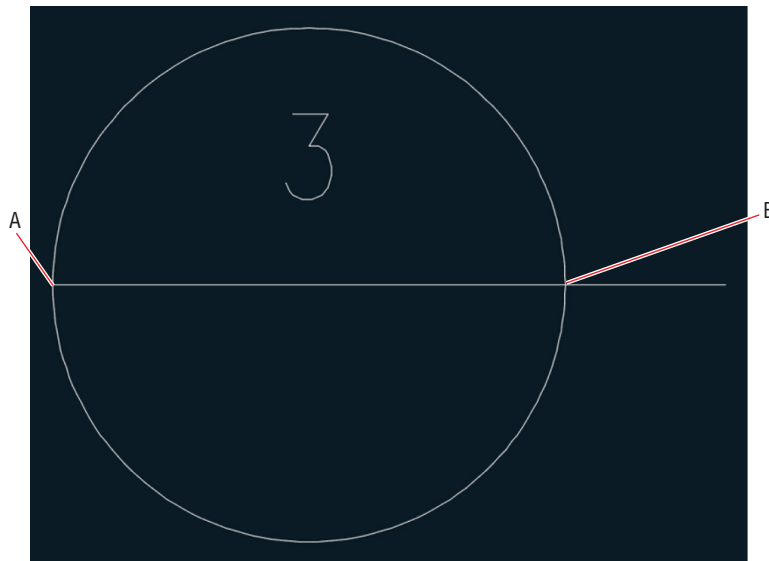

FIGURE 10.6 Mirroring text to create a duplicate text object
- Click the Mirror tool on the Modify panel, select the text object (3), and press Enter. Click the start point at A and the endpoint at B in Figure 10.6 to define the mirror. The command line reads as follows: